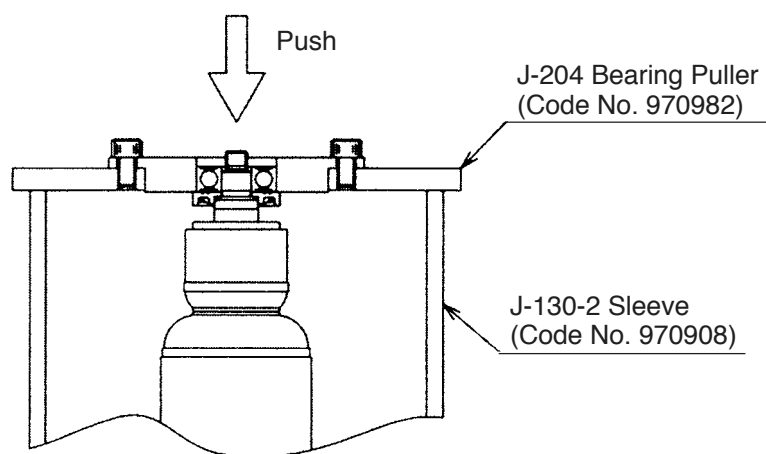

Fig. 8
2. As shown in Fig. 8, put the J-204 Bearing Puller (Code No. 970982) on the J-130-2 Sleeve (Code No. 970908) and push the armature shaft with a hand press to pull out the Ball Bearing 608VVC2PS2L **[23]** **<23>**.